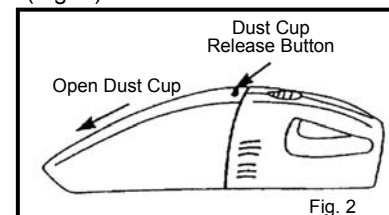

Fig. 2
1. To open the dust cup compartment, push the dust cup release button and remove the dust cup container. (Fig. 2)